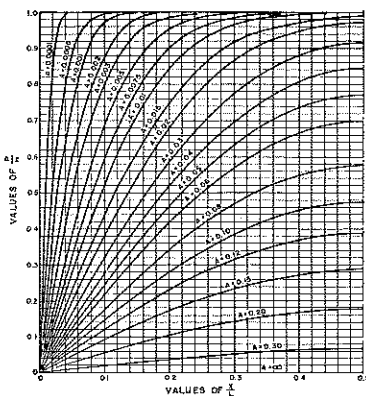

FIGURE 5 - PRESSURE VARIATION DURING CONSOLIDATION OF A SOIL SAMPLE
The solution has been plotted in figure 5 for various values of the parameter A as defined in (26). If the soil-sample is closed at one end and free draining at the other
The procedure in determining the quantities α and αEK experimentally under given conditions is to place a sealed sample of the soil in the apparatus described above and subject it to a uniform pressure σ estimated to exist in the actual structure. The sealed sample is allowed to consolidate until the pore pressures at each end have become equal. The ratio of this pressure H divided by the load σ has been found to be the best average value for α under the given conditions. The sample is then allowed to drain at one end, and at given time intervals the pressure p is read at the closed end. Let the time lapse from beginning of drainage be t and the simultaneous pressure reading be p and let twice the length of the sample be L . Compute the ratio $\frac{p}{H}$ and in figure 5, on the ordinate $\frac{x}{L} = 0.5$, interpolate the corresponding value of the parameter A . Equation (26) then gives